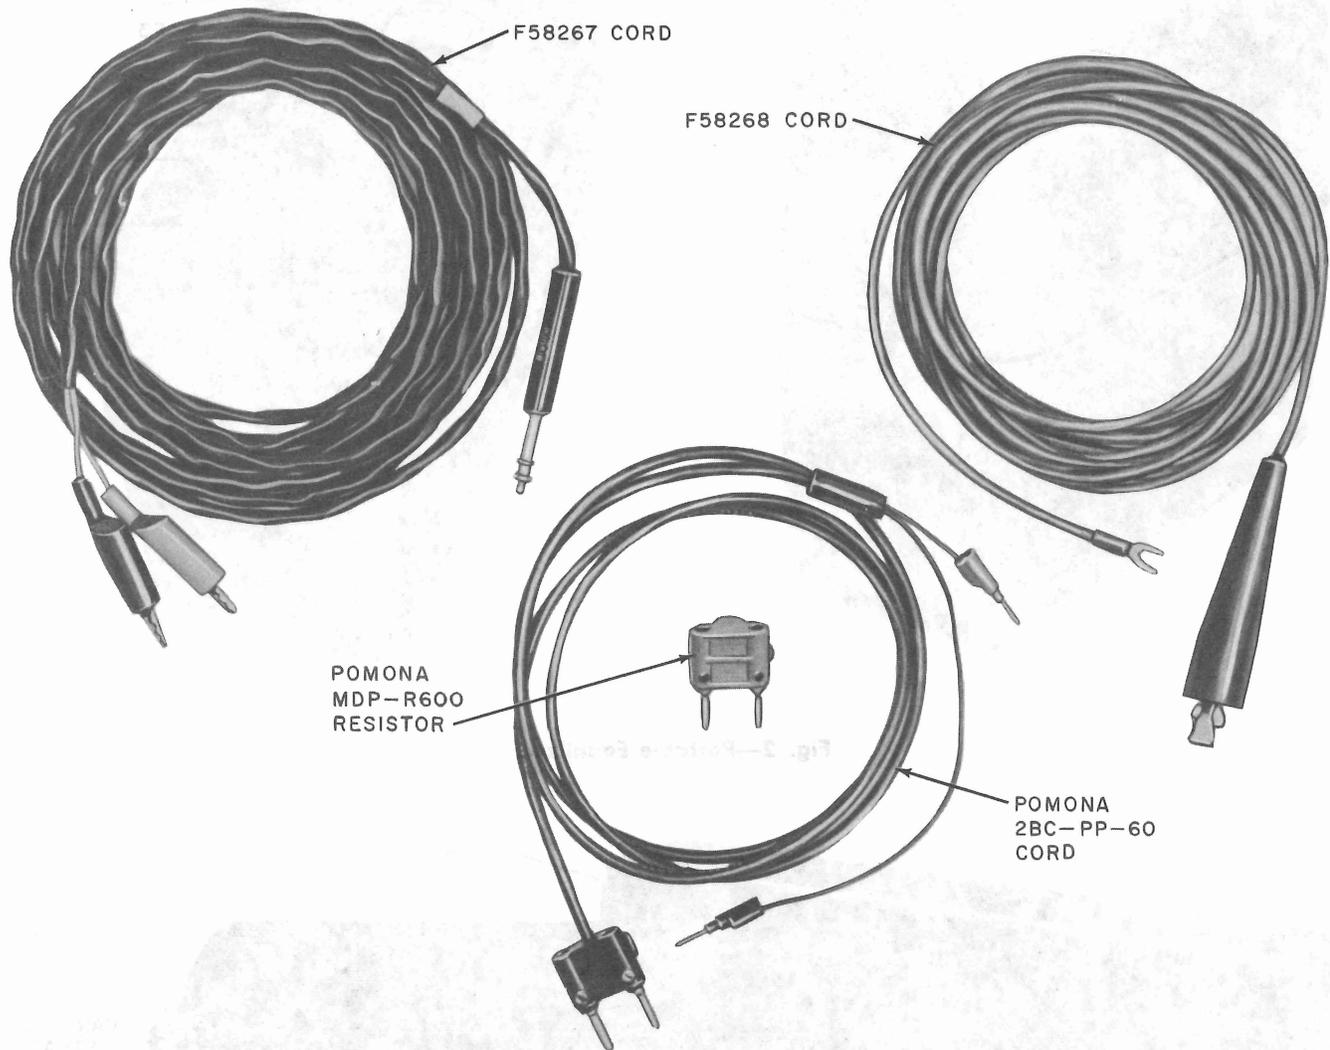
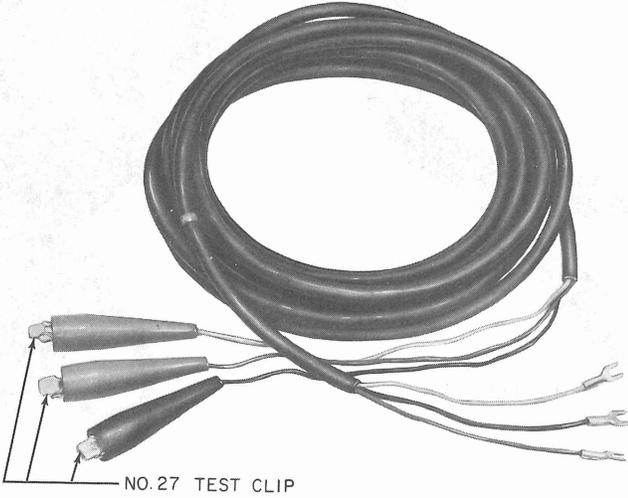

Fig. 4—Test Cords
Fig. 6-W3AG Cord
- (4) Test Cords for test sets (Fig. 4)
- (5) One 1013A, or equivalent, Handset
- (6) One 96A Test Set (Fig. 5) equipped with W3AG Cord (Fig. 6)